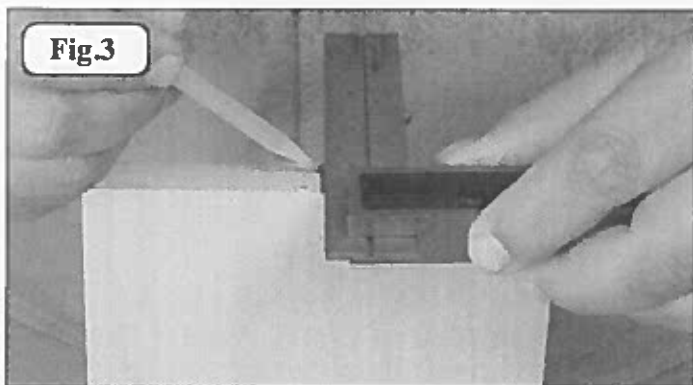

Fig.3
C. Place the mounted dovetail jig (tail side) on the end of stock. Position the jig, so that there are equal distances on either side of the jig. Make sure dovetail jig rest's flat on the tail stock and secure in place with F-clamps or included track clamps. To achieve an exact centered joint, mark the center of your stock, See Fig. 3, then measure $5/16"$ to one side of the center mark and scribe a second line with a pencil. Position the inside edge of one of the tail side openings exactly with the second scribed line See Fig. 4 or 4a. Secure in place with F-clamps or Track clamps. This method gives you equal spacing of your tails on either side of your stock.